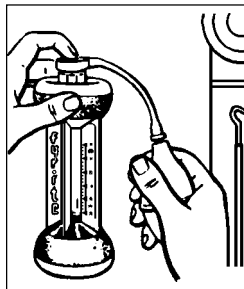

Figure 6
6. To pump gas sample into FYRITE (Fig. 6), insert open end of metal sampling tube into area bearing gas for analysis. Hold FYRITE in upright position and place sampling assembly rubber connector tip over the Plunger Valve.